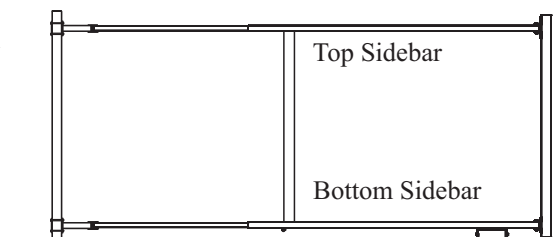

Fig.9
**5** **Attaching the Bottom Sidebars** - Lay the Side Frame parts out on the ground, some of these parts are handed so it is important to pair them up correctly before bolting anything together. Pair each Side Frame so that the slots face inwards and the Roller Wheel faces down (as shown in Fig 9).